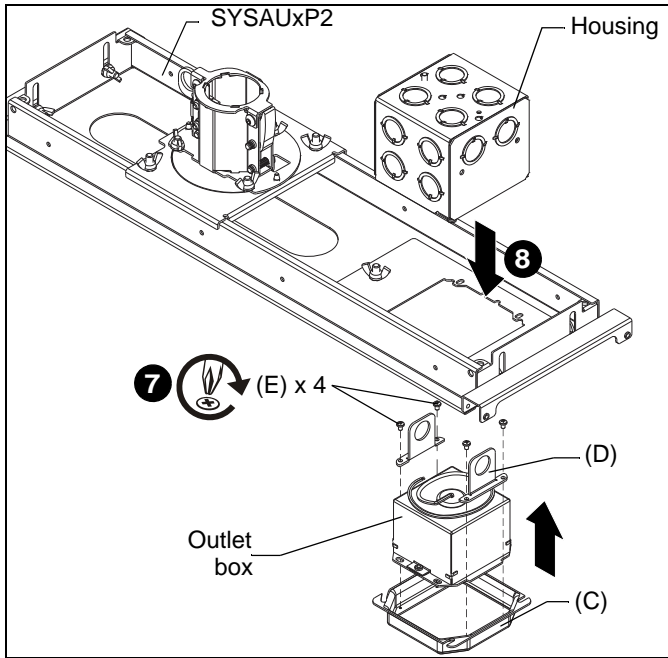
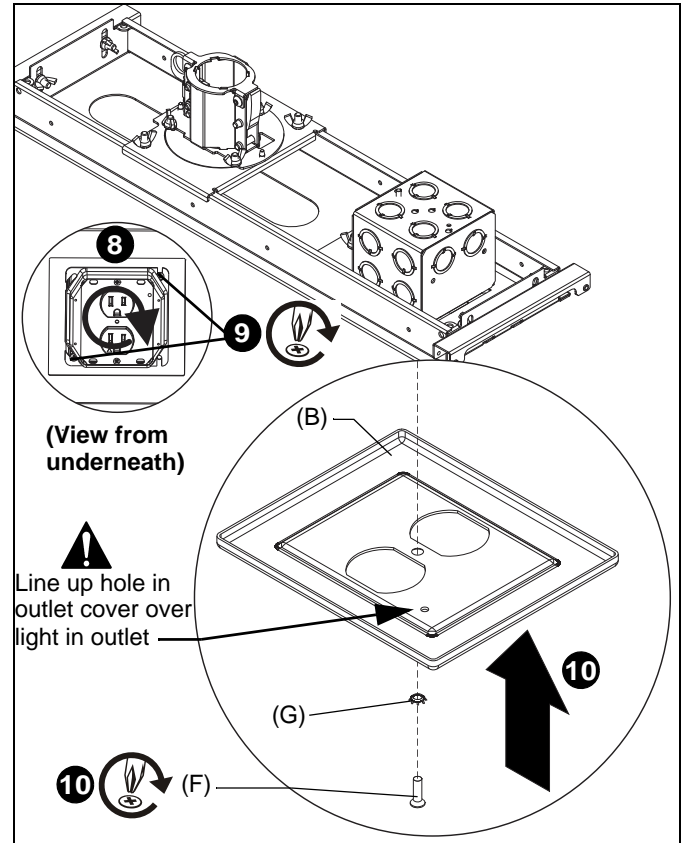

Figure 8
Figure 9
7. Lower outlet box into the mud ring (C) and attach two screw spacers (D) inside the mud ring on either side of outlet box using four 06-32 x 3/16" Phillips pan head screws (E). (See Figure 8)
8. Lower housing from above SYSAU, install outlet box assembly up into housing, and rotate clockwise into place. (See Figure 8) and (See Figure 9)
9. Tighten existing Phillips head screws (in outlet housing) to hold in place. (See Figure 9)
10. Install outlet cover (B) over outlet box using one 6-32 x 1/2" Phillips flat head screw (F) and one #06 lock washer (G). (See Figure 9)